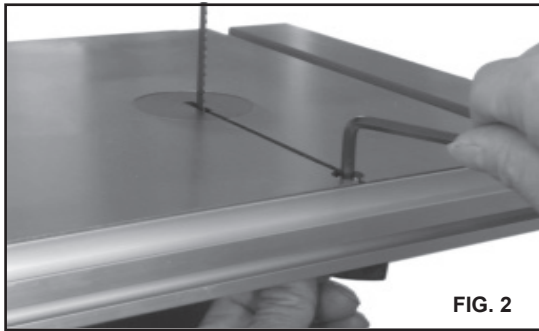

FIG. 2
b. Fasten the guide rail with two each star knob screw and washer to the table. Use the hex socket head cap screw, washer and wing nut for correcting the working table flatness. (See Fig. 2)